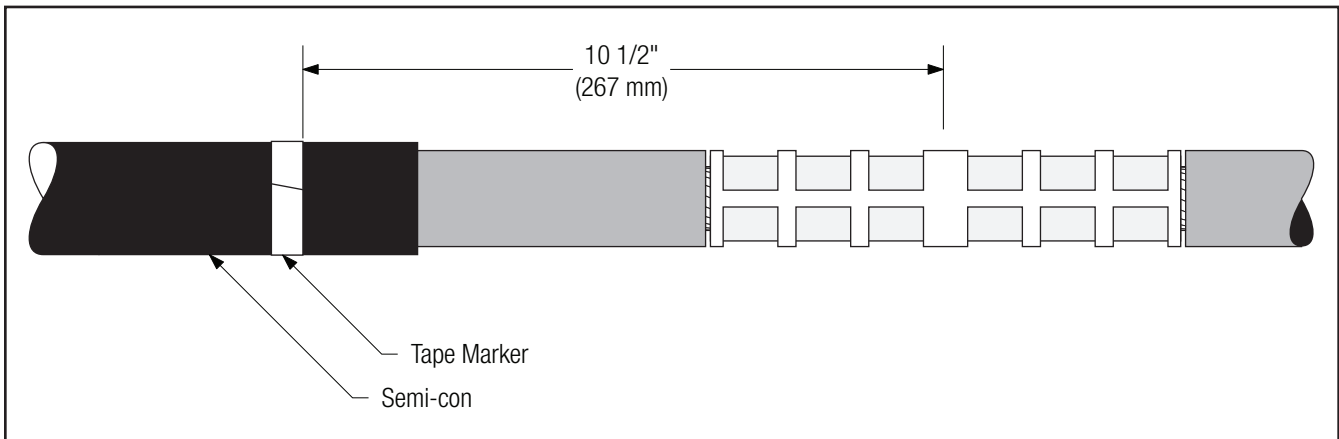

Figure 17
- 5.1 Apply a tape marker to semi-con insulation shield on cable which does not contain splice. Measure 10 1/2" (267 mm) from center of connector (*Figure 17*).